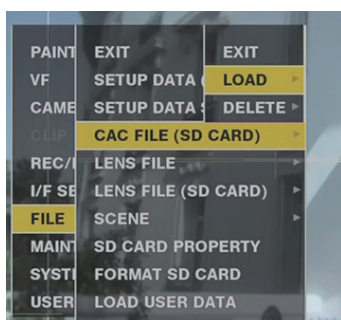

Fig. 1
- Select [LOAD] from the main menu → [FILE] → [CAC FILE (SD CARD)]. (Fig. 1)